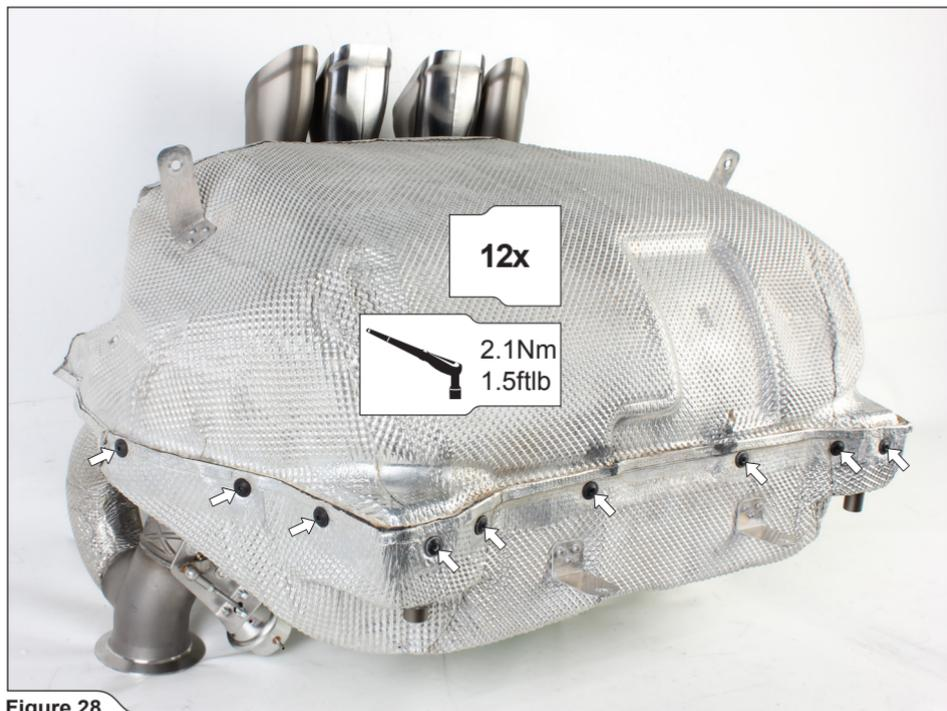

Figure 28
3. Mount the stock muffler's heat shield onto the Akrapovič muffler, using stock bolts (Figure 28).